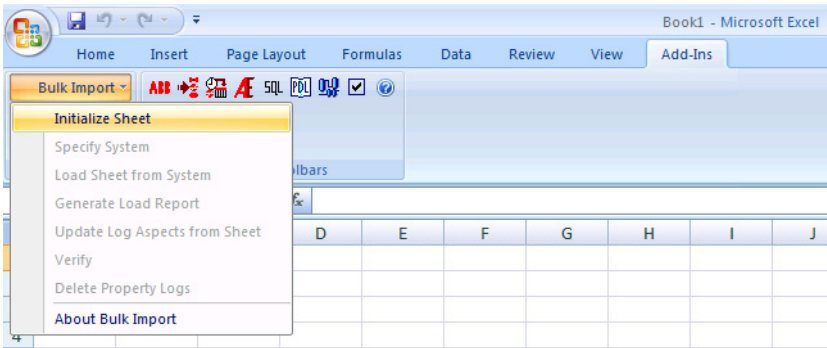

Figure 195. Verify Add-in Tools Available in Excel
- 10. Verify the Bulk Import add-in tools are added in Excel, Figure 195.